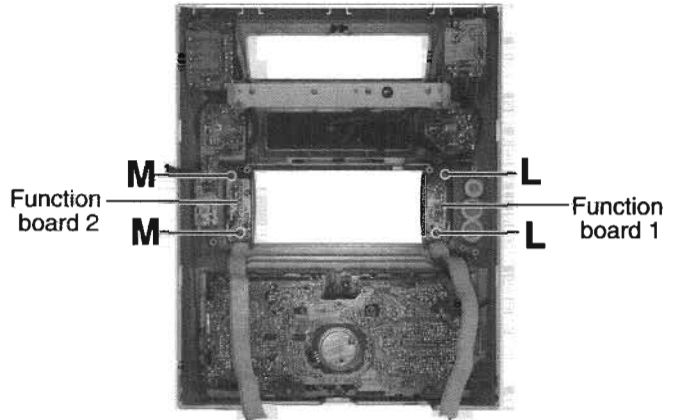

Fig.17
■ **Removing the boards in the front panel assembly (See Fig.17 to 18)**
— **Function board1 (See Fig.17)**—
— **Function board2 (See Fig.17)**—